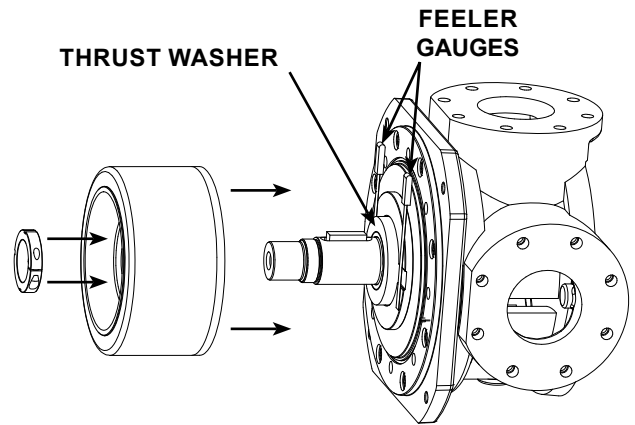

FIGURE 16
8. Place two feeler gauges (0.003"), one on each side of the shaft, between the adaptor plate thrust washer and the inner magnet thrust washer. Refer to **Figure 16**. This will establish the proper clearance for the thrust washers. Tighten the locknut until the feeler gauges are snug, but can still be removed. Do **NOT** remove the feeler gauges at this time.